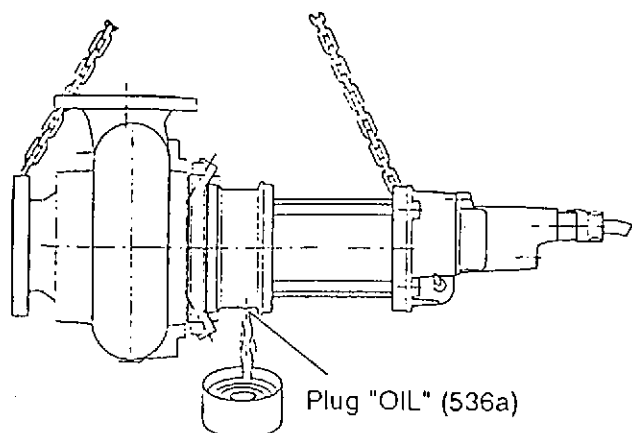

Fig. 12
Remove plug "OIL" (536a) and drain oil chamber casing (504) completely, by turning the pump around slowly until plug "OIL" is upside down (Fig. 12). On motor sizes 3/X, 4 and 5 there may be another plug directly below the "OIL" plug on the back cover (507) Opening this plug will help remove the last bit of oil.